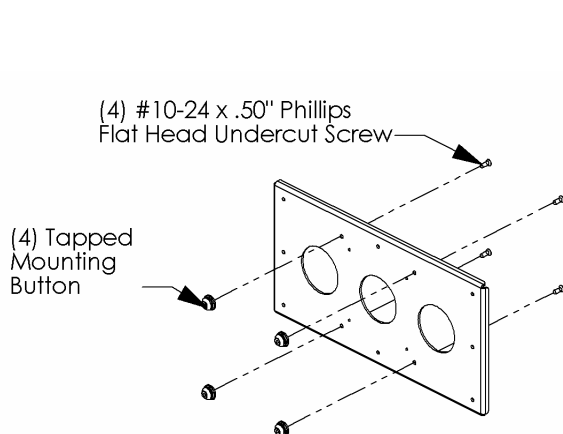

Figure 2
- 1a. Assemble four (4) mounting buttons to 5" hole pattern on the adapter bracket using four (4) 10-24 x .50" Phillips pan head screws (see Figure 2).